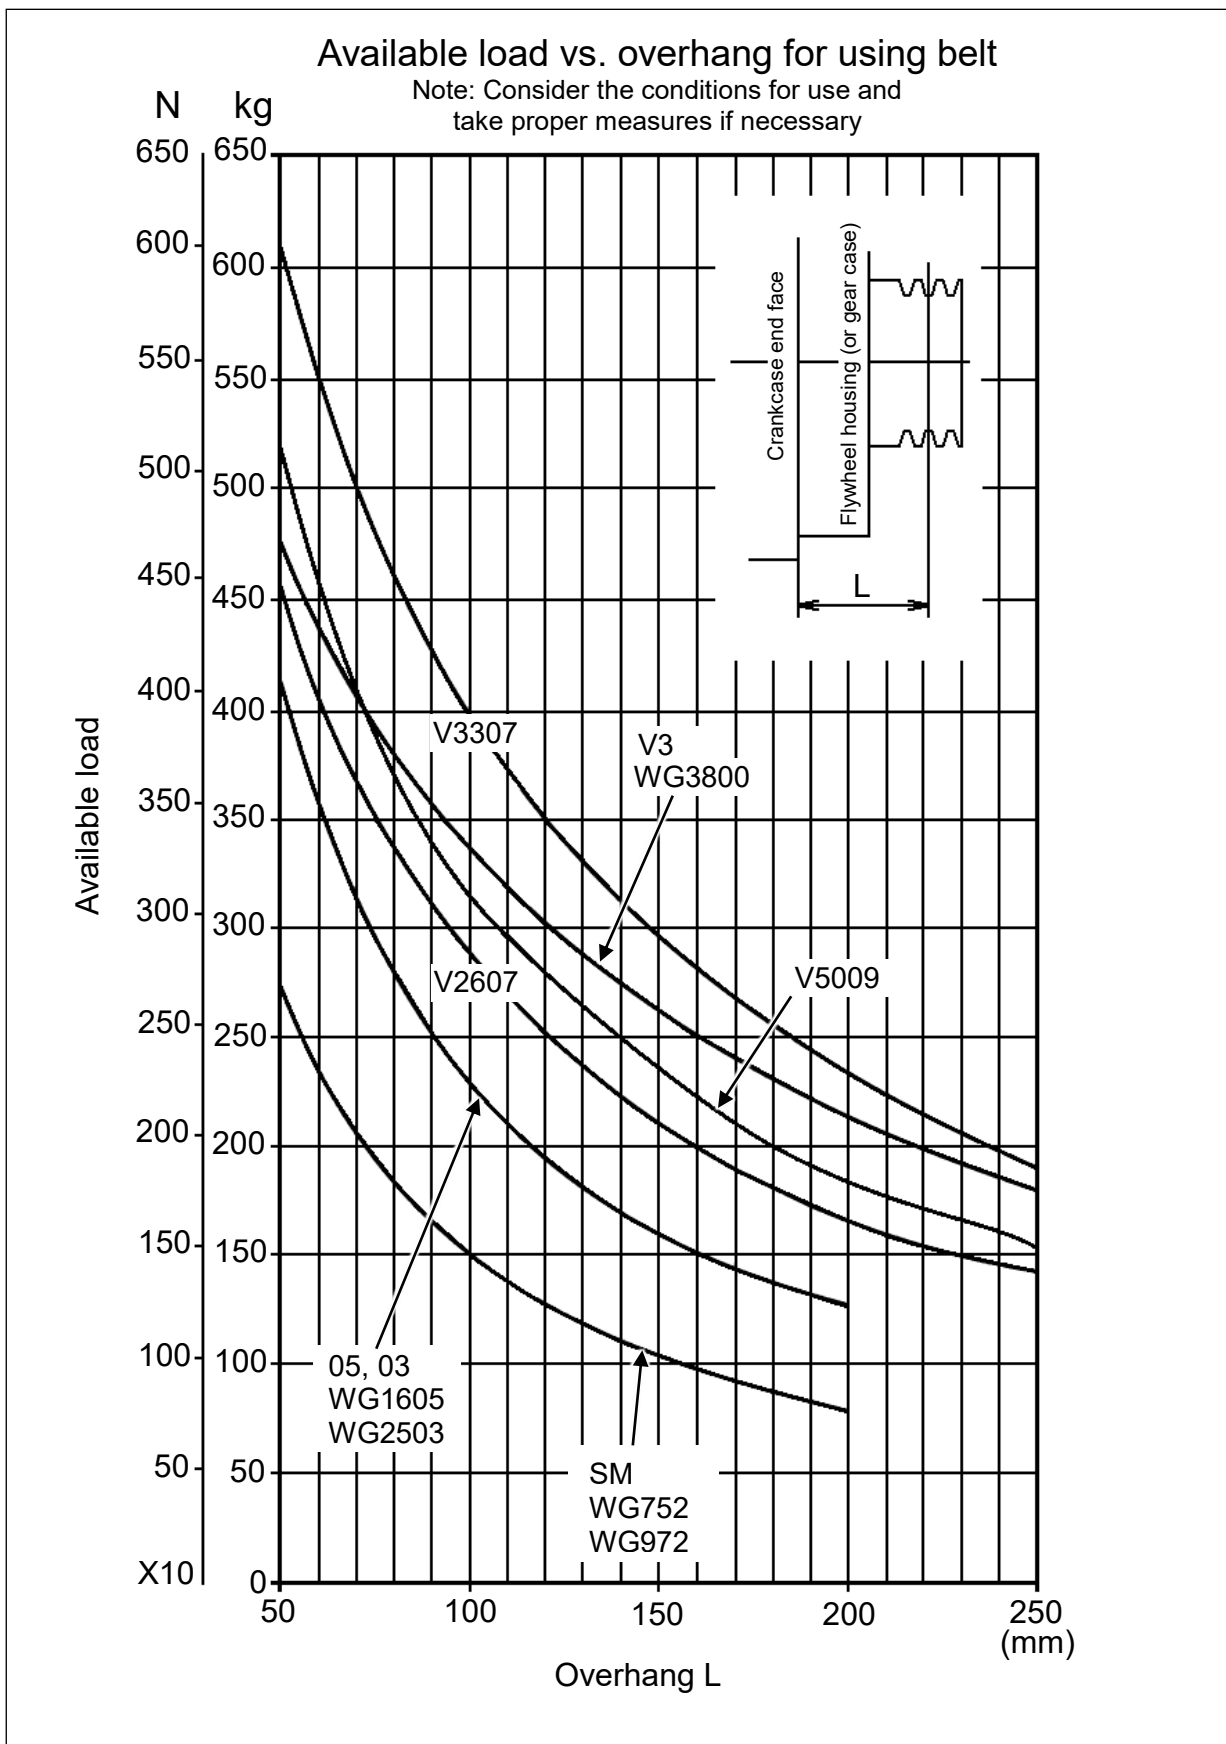

Figure 10
- (3) Find the allowable overhang from the engine according to Figure 10 and design the position within the allowable limit.